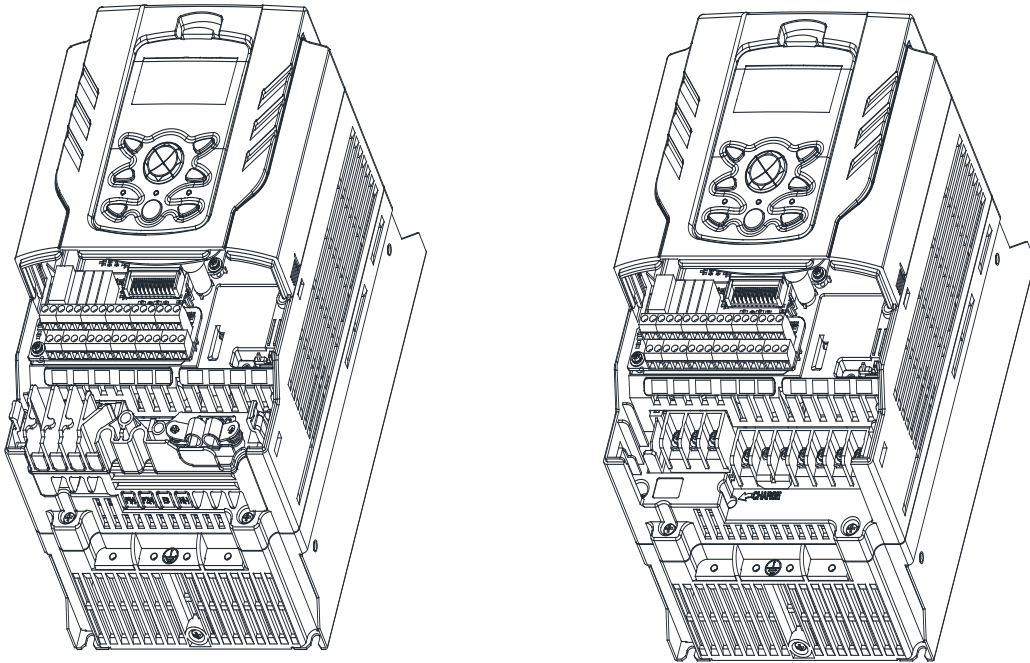

Figure 10. Remove Power Cover and CABLE Guide
- ① Remove the Power cover and cable guide of the product as shown in the Figure 10.